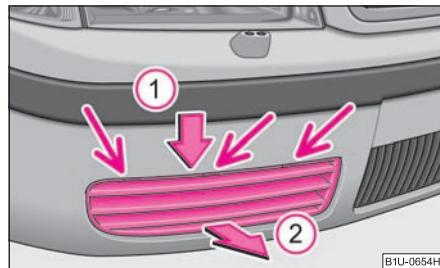

Fig. 167 Front bumper: protective grille of towing eye
The front towing eye is welded on behind the bumper on the right ⇒ fig. 167. The tow rope or the tow bar must only be attached to this eye. The grille is secured with plastic lugs at the points of the arrows. Remove the grille as follows:
- Grasp the grille on the ribs in the upper area. Press it in the direction of arrow ① and take it out in the direction of arrow ② ⇒ fig. 167.